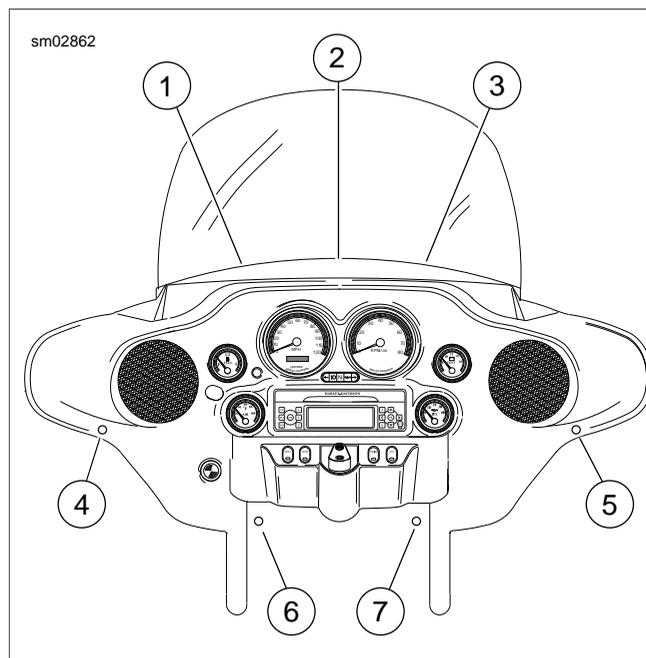

Figure 2-133. Outer Fairing Screws
2. **Loosen** the three screws (with flat washers) just below the windshield. See Figure 2-133.
2. Start the three screws (with flat washers) just below the windshield. See Figure 2-133.